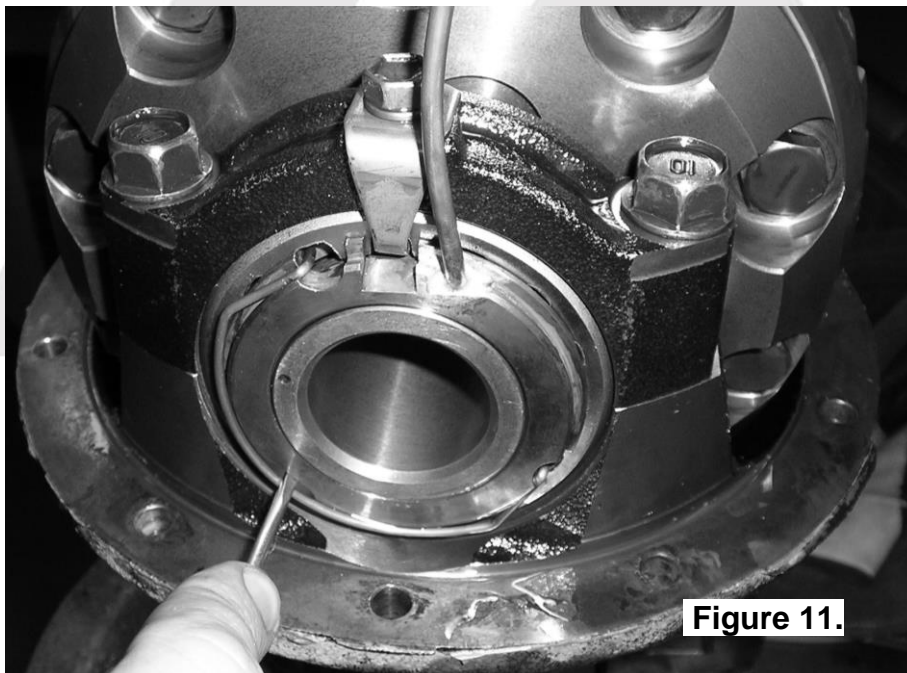

Figure 11.
- Install the spring clip by first hooking both ends of the clip into the small aligned cutouts of the seal housing and the adjuster nut, and then snapping the clip into the groove of the seal housing using a screwdriver. (Fig.11.)